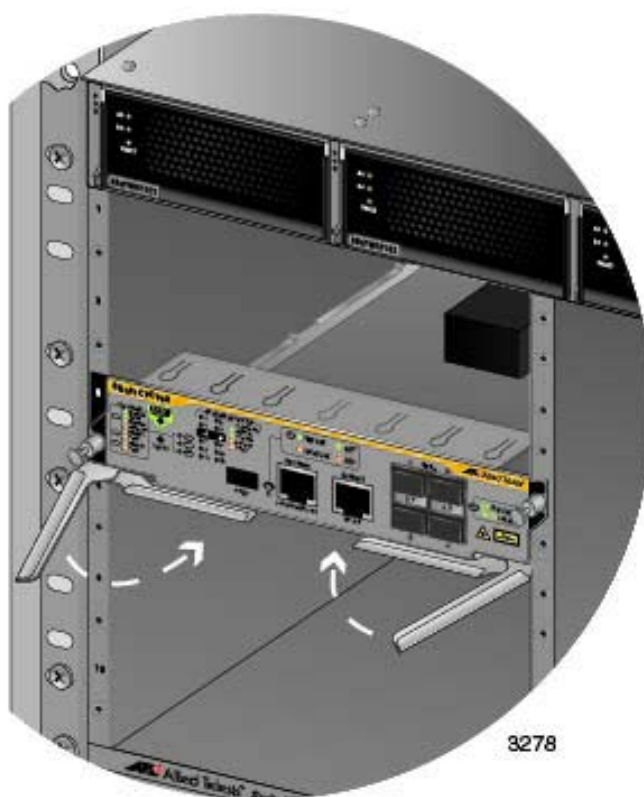

Figure 69. Closing the Locking Levers on the AT-SBx81CFC960 Controller Fabric Card
8. When you feel the card make contact with the connector on the backplane of the chassis, carefully close the two locking levers on the front panel of the controller card to secure it in the chassis, as shown in Figure 69 on page 132.